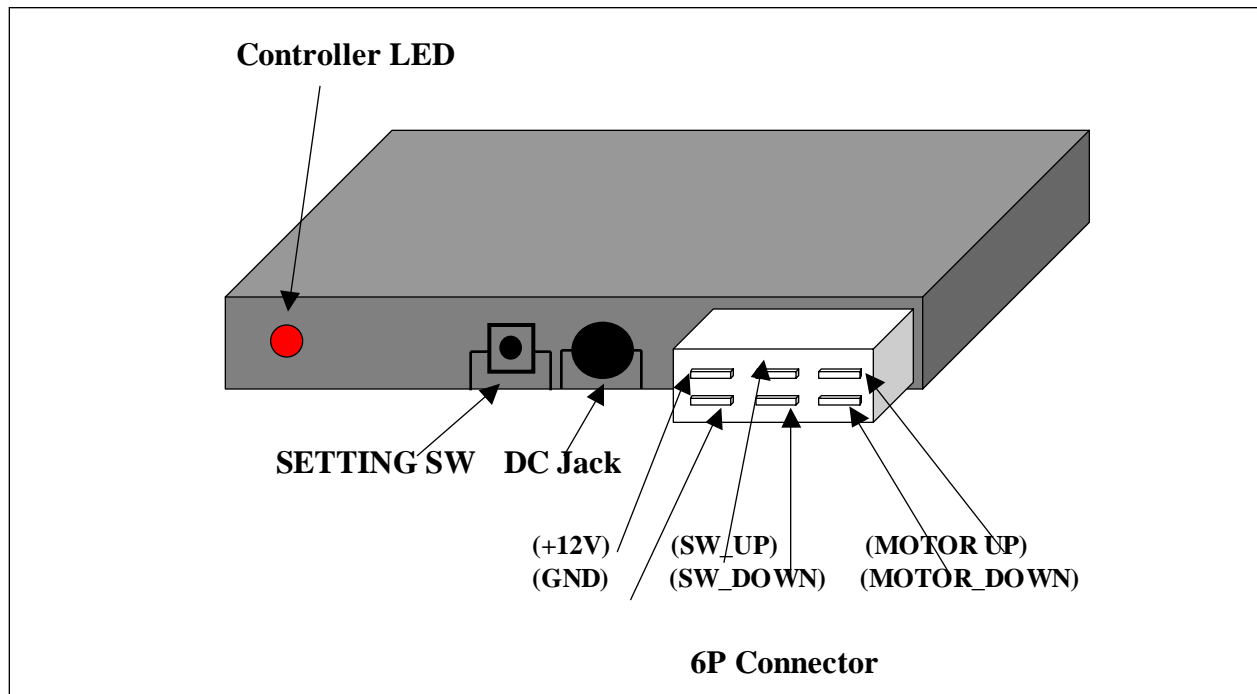
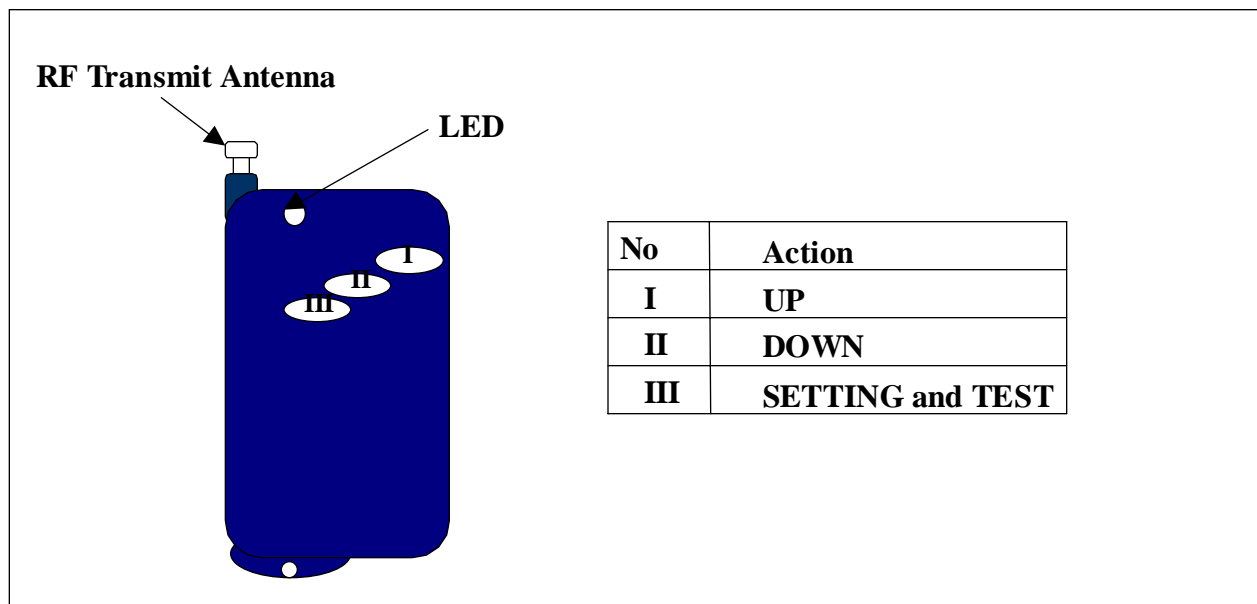

Fig 1 . Main Controller
Fig 2 . RF Remote Controller
2. Setting for RF remote controller with main controller (see Fig 1, Fig 2)